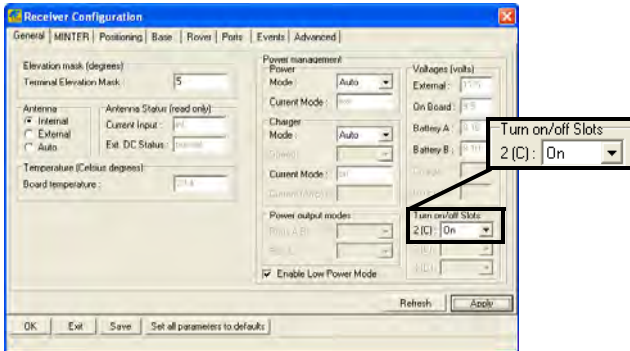

Figure 2-9. Select Power Output Modes – Ports and Slots
5. Select the **Turn on/off Slots** drop-down list to set power output on internal slots (Figure 2-9).